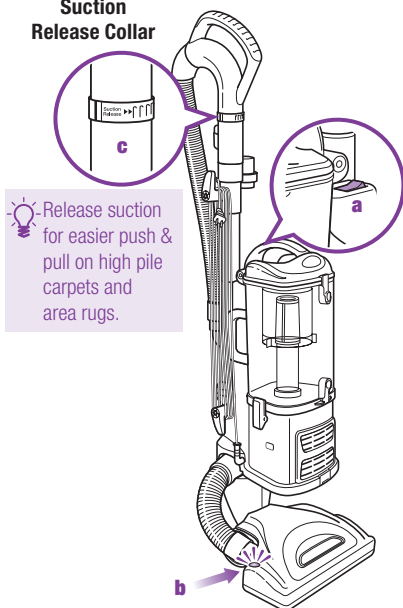

Fig. 12
- 3 Press the On/Off switch (a) to the "I" position to vacuum bare floors (straight suction only) or to the "II" position to engage the motorized floor brush (for vacuuming carpets and rugs). (Fig. 12)
IMPORTANT: The motorized brush indicator light (b) will illuminate green when motorized floor brush is on, or red if there is a blockage or jam. (Fig. 12) This feature is designed to protect your Lifetime Belt that powers your motorized floor brush. See "Checking for Blockages" section on page 15.
- 5 Due to the huge suction power of this vacuum, it may become necessary at times to adjust the suction release (c) on the handle. (Fig. 12) If the vacuum seems difficult to push or pull or if it is lifting up area rugs, adjust the suction release by rotating the collar 90° counter-clockwise to open the valve. Rotate the collar clockwise to close the valve when you need high suction and for vacuuming floors.